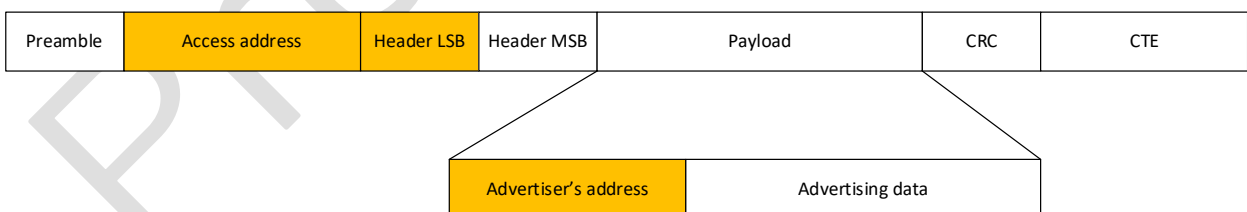

Figure 25 : Link layer advertising packet format
A typical advertising packet's link layer packet format is shown in Figure 25. It consists of a preamble, access address, two header bytes, payload, CRC and CTE (constant tone extension). The header LSB (least significant byte) is configurable through the advanced advertising configuration tab. The header MSB is reserved to indicate the payload length. The payload typically consists of a 6-byte advertising address and a configurable advertising data covered in the other sections in this guideline. The configuration tool provides users with the flexibility to go beyond using standard Bluetooth link layer advertising packet format for their specific application needs.
- **Enable Custom PDU Header:** 1 byte of header LSB can be defined by user as shown in Figure 25.